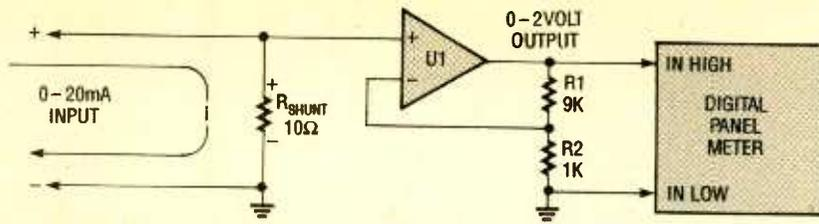

Fig. 10. An operational amplifier can be added to convert current into voltage for the digital panel meter. The shunt resistor determines the range.
**Ammeter.** Remember that our meter module can only read DC voltage. In order for the meter to read current, the current signal must be converted into a related voltage signal. The circuit addition in Fig. 10 uses an operational am-
For the circuit of Fig. 10, a 10-ohm resistor will sense the current in the 0 to 20 mA range. In that range,  $R_{SHUNT}$  will develop a potential from 0 to 0.2 volts. At 20 mA, the 0.2-volt DC signal will be amplified by 10 to yield 2 volts to the module. In this case, 20 mA will cause a full-scale response. The middle decimal point may be used in this range (19.99 mA). As a general rule, try to keep the sense resistor as small as possible to reduce the load on the circuit under test.